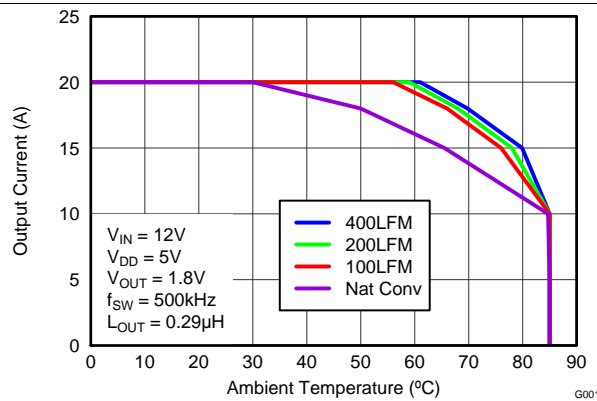
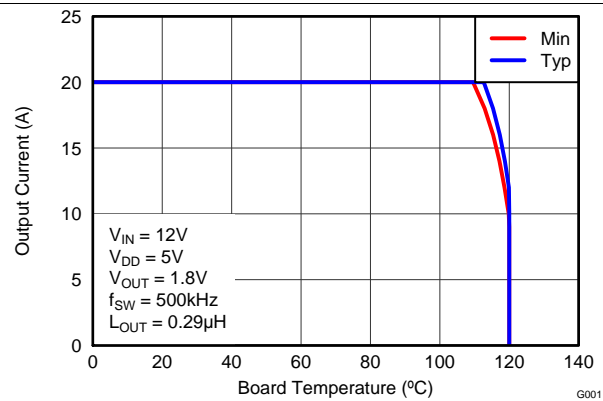

Figure 3. Safe Operating Area (SOA) – PCB Horizontal Mount ⁽¹⁾
Figure 4. Typical SOA ⁽¹⁾
The SOA curves in the CSD95379Q3M data sheet give engineers guidance on the temperature boundaries within an operating system by incorporating the thermal resistance and system power loss. Figure 3 and Figure 4 outline the temperature and airflow conditions required for a given load current. The area under the curve dictates the safe operating area. All the curves are based on measurements made on a PCB design with dimensions of 4 inches (W) × 3.5 inches (L) × 0.062 inch (T) and 6 copper layers of 1 oz. copper thickness.